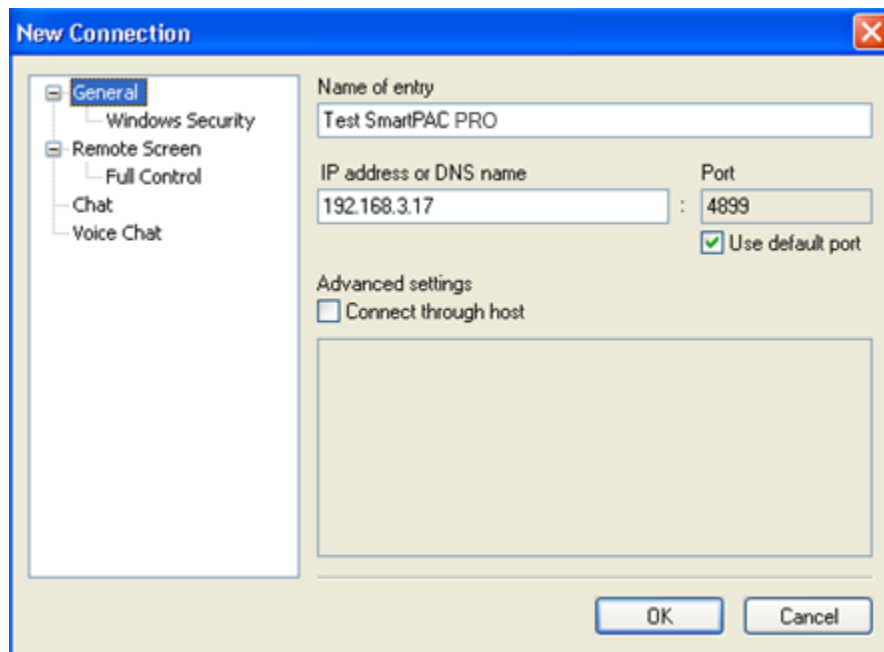

Figure 1. New Connection
1. Launch the Radmin Viewer application and select 'New Connection.' Use the static IP address of the SmartPAC PRO (or its DNS name) and default port. (See Figure 1)